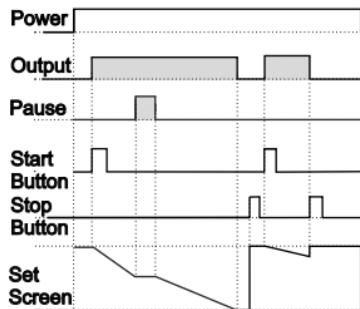

Figure 2.1
2.1.1 If Downcount ***dEct***=1 and ***outF*** is ***o-n*** the control diagram is shown in Figure 2.1